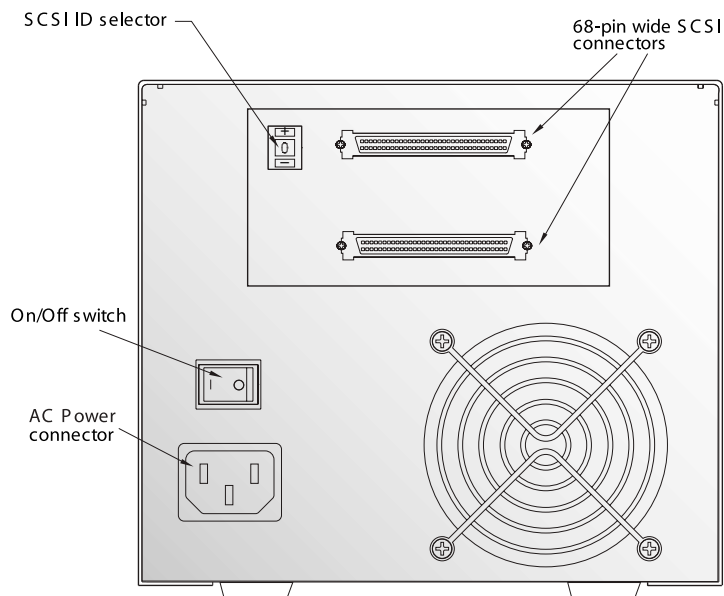

Figure 14. Switches and Connectors on the Back of Desktop LTO-1 and LTO-2 Drives
Each SCSI device on the bus must have its own unique SCSI ID. The desktop tape drive is shipped with a default SCSI ID of 6. Avoid setting drive ID to 7. If another SCSI device in the SCSI chain is already using this ID, either use the push-button switch on the back of the drive to change the drive's SCSI ID (see Figure 14 on page 28) or assign a unique SCSI ID to the other SCSI device.
The desktop LTO-1 and LTO-2 drives have two 68-pin, shielded SCSI interface connectors (ANSI Alternative 2) on the rear panel (see Figure 14 on page 28). These connectors consist of two rows of ribbon contacts spaced 2.16 mm (0.085 in) apart. Either connector can be used as a SCSI IN or SCSI OUT connection. This means you can use either connector to attach the drive to a host computer or to another SCSI device.
2. Attach the SCSI interface cable to one of the 68-pin SCSI interface connectors on the back of the drive (see Figure 14 on page 28).
Attach the power cord securely to the power connector on the back of the desktop LTO-1 or LTO-2 drive (see Figure 14 on page 28).